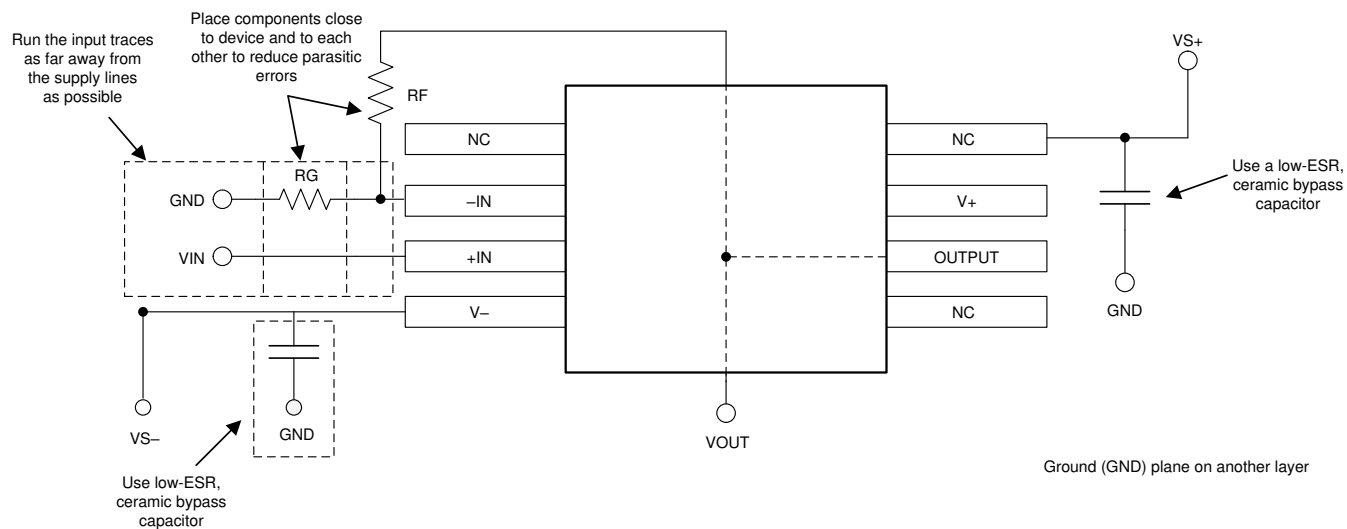

图 10-2. Operational Amplifier Board Layout for Noninverting Configuration
- Place the external components as close to the device as possible. As illustrated in Figure 10-2, keeping RF and RG close to the inverting input minimizes parasitic capacitance.